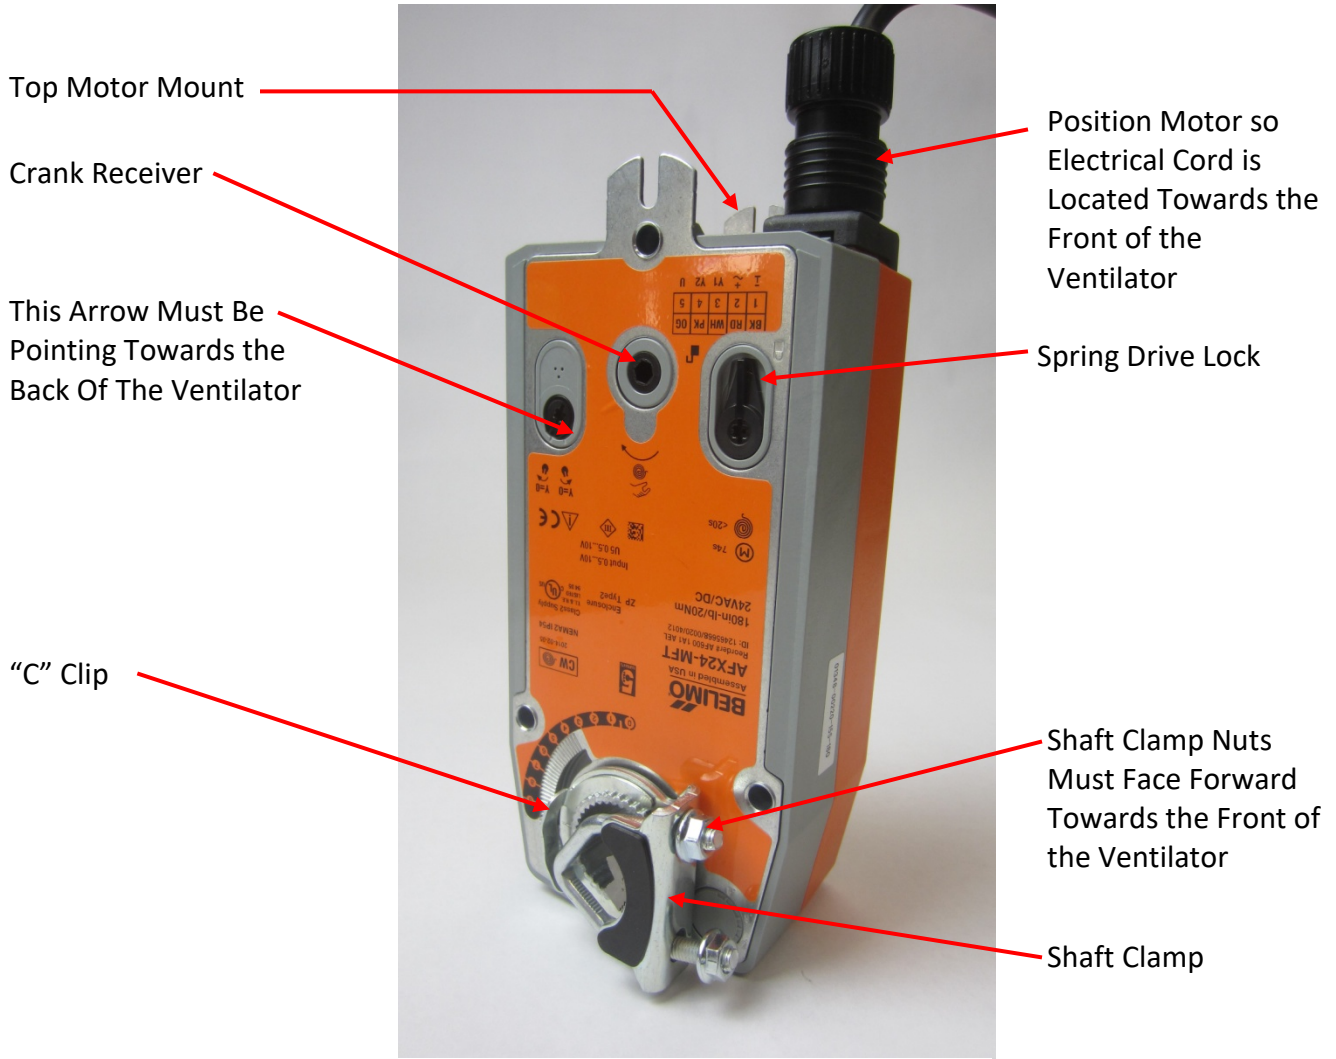

Figure 6-44-1
3. Loosen the two nuts on the Shaft Clamp (Refer to Figure 6-44-1).
1. Next it is necessary to “set up” the motor prior to installing. Remove the “C” clip that holds the Shaft Clamp and remove the Shaft Clamp (Refer to Figure 6-44-1).
Explanatory Note: In examining the motor, note that it is two sided, with the plastic switches and markings on one side being a mirror image of the other side. The motor is always mounted vertical with the electrical cord closest to the access panel (Refer to Figure 6-44-1). Depending upon the type of cooking equipment under the Ventilator and the number of Ventilator sections in a continuous line determines which end of the Ventilator the Damper Motor is located. The location determines which side of the Motor the Shaft Clamp is mounted on.
2. With the Motor Crank provided, place the crank in the Crank Receiver (it does not matter which side of the motor) turn the crank two full turns, and while holding the crank push the Spring Drive Lock to the lock position then release the crank and then the lock (Refer to Figure 6-44-1).
3. Looking at the end of the Motor with the electrical cord closest to you, place the Shaft Clamp on the Shaft Receiver on the appropriate side, left side if the Motor is on the left end of the Ventilator and right side if mounted on the right end, with the Shaft Clamp nuts facing you. In Figure 6-44-1 the Motor is set up for mounting at the left end. As a double check of facing the Motor in the correct position, the arrow on the Crank Receiver should always be pointing towards the back of the Ventilator (Refer to Figure 6-45-1).